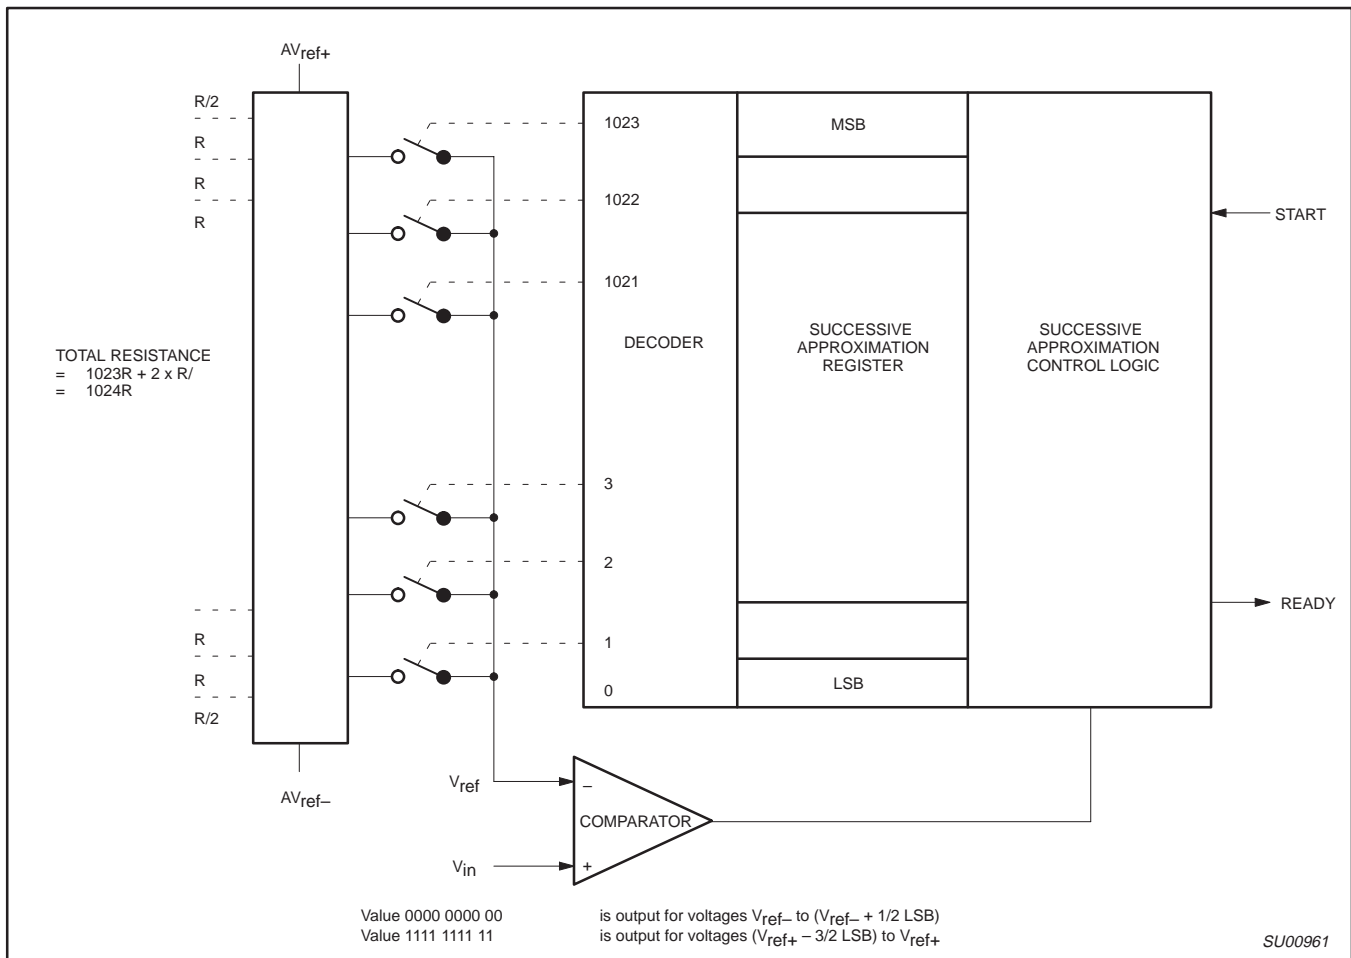
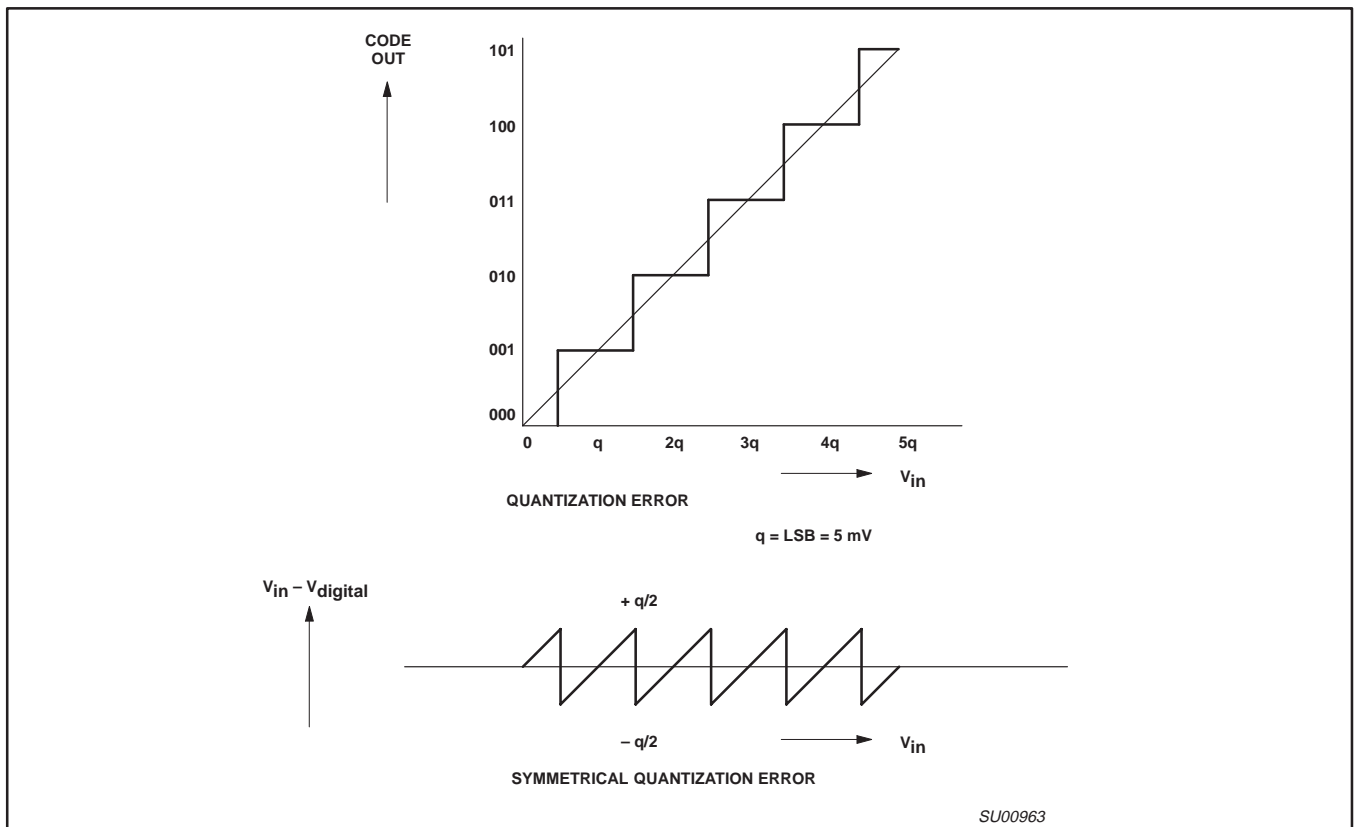

Figure 24. ADC Realization
Figure 26. Effective Conversion Characteristic
**10-Bit ADC Resolution and Analog Supply:** Figure 24 shows how the ADC is realized. The ADC has its own supply pins (AVDD and AVSS) and two pins (Vref+ and Vref-) connected to each end of the DAC's resistance-ladder. The ladder has 1023 equally spaced taps, separated by a resistance of "R". The first tap is located 0.5 x R above Vref-, and the last tap is located 1.5 x R below Vref+. This gives a total ladder resistance of 1024 x R. This structure ensures that the DAC is monotonic and results in a symmetrical quantization error as shown in Figure 26.